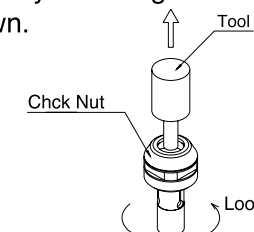

Fig.4
- ① The chuck nut is loosened together with the tool according to the "4 Replacement of Tools" procedure above. And unscrew the chuck nut and remove the collet and chuck nut. Then remove the tool from the chuck.(Fig.4)